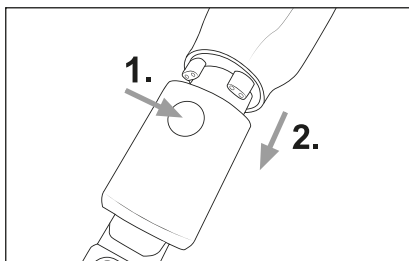

Fig. 12
- ◆ To remove the 2-in-1 combination brush ❸, press and hold the release button on the 2-in-1 combination brush ❸, then pull it off the suction pipe ❹ or the suction opening of the appliance (see Fig. 12).